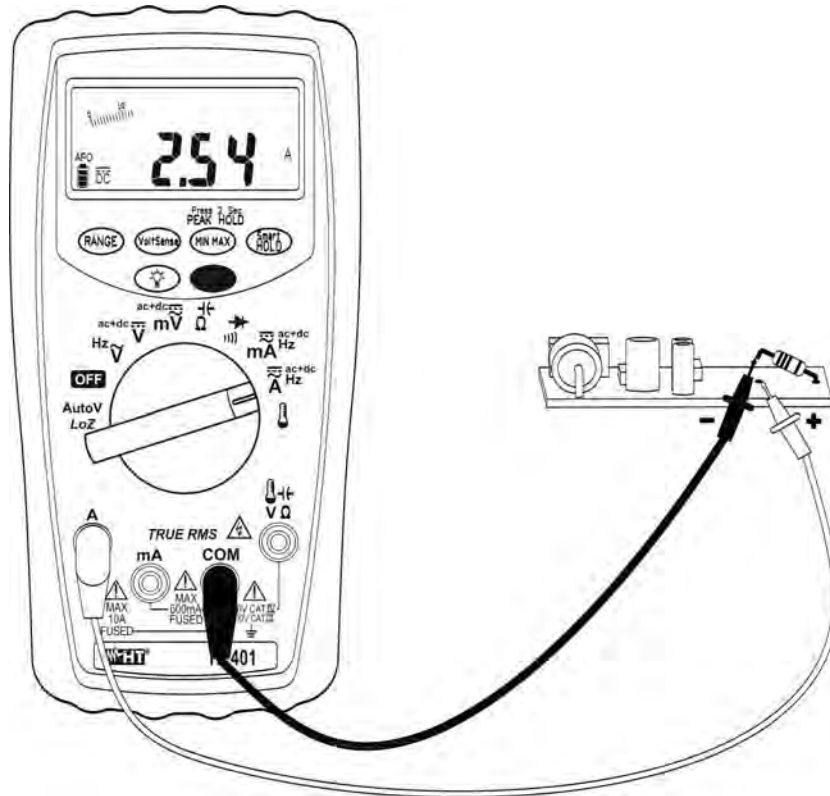

Fig. 5: DC current measurement
6. Connect the red lead and the black lead in series to the circuit whose current you want to measure, respecting polarity and the current direction indicated in Fig. 5
9. When symbol “-” appears on the instrument’s display, it means that current has the opposite direction with respect to the connection in Fig. 5